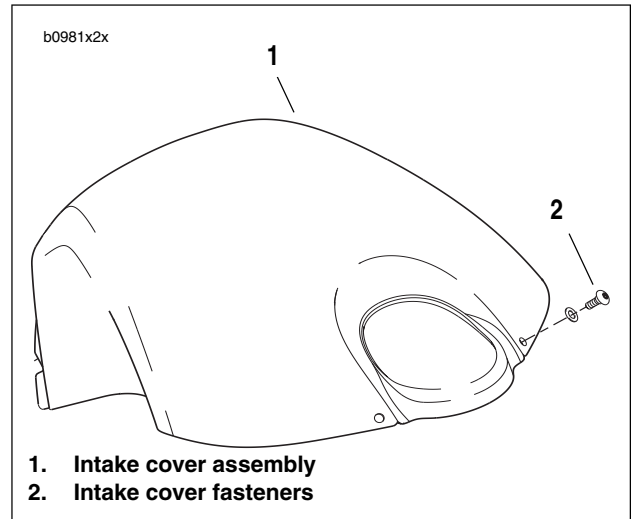

Figure 2-111. Intake Cover Assembly
2. See Figure 2-111. Remove fasteners and nylon washers (2).
3. Remove intake cover assembly (1).
2. See Figure 2-111. Start the front two fasteners (2) with nylon washers.
3. Install the remaining fasteners and nylon washers (2). Tighten all fasteners to 12-36 **in-lbs** (1-4 Nm).